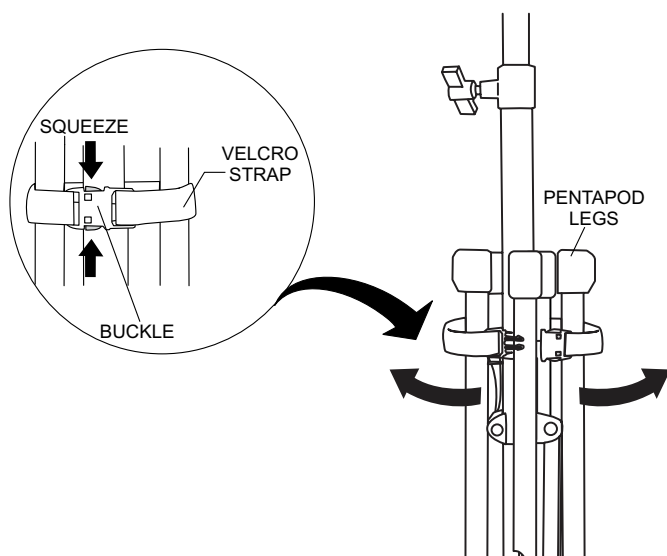

Figure 5. Velcro Strap (Open)
2. Remove pentapod from its carrying case. The pentapod legs are secured by a black velcro strap (Figure 5). Squeeze both tabs on each side of buckle to unlock strap and allow tripod legs (Figure 6) to be deployed.